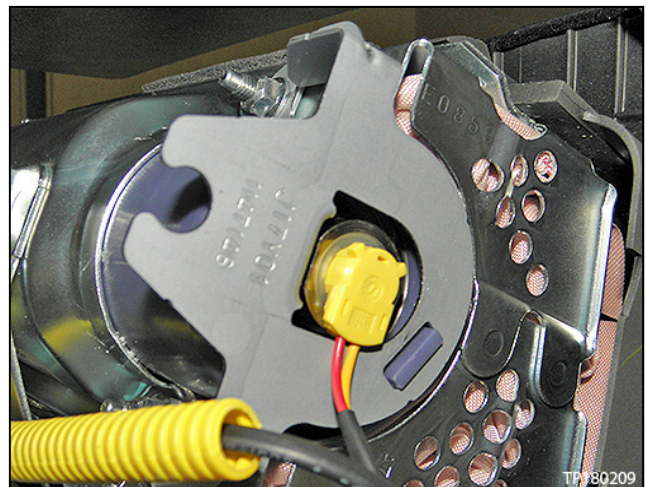
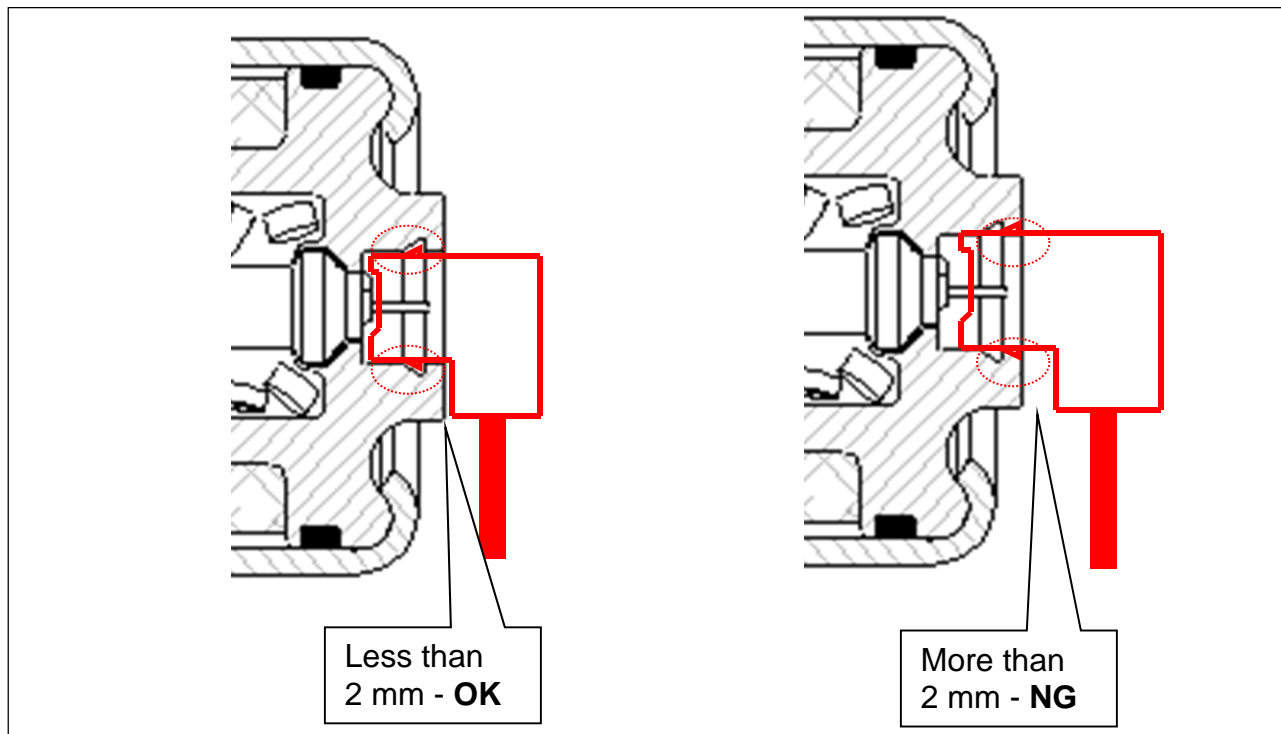

Figure 44
Figure 46
- Refer to Figure 44 – Figure 46.
- Make sure the inflator connectors are fully engaged / seated (Figure 46).